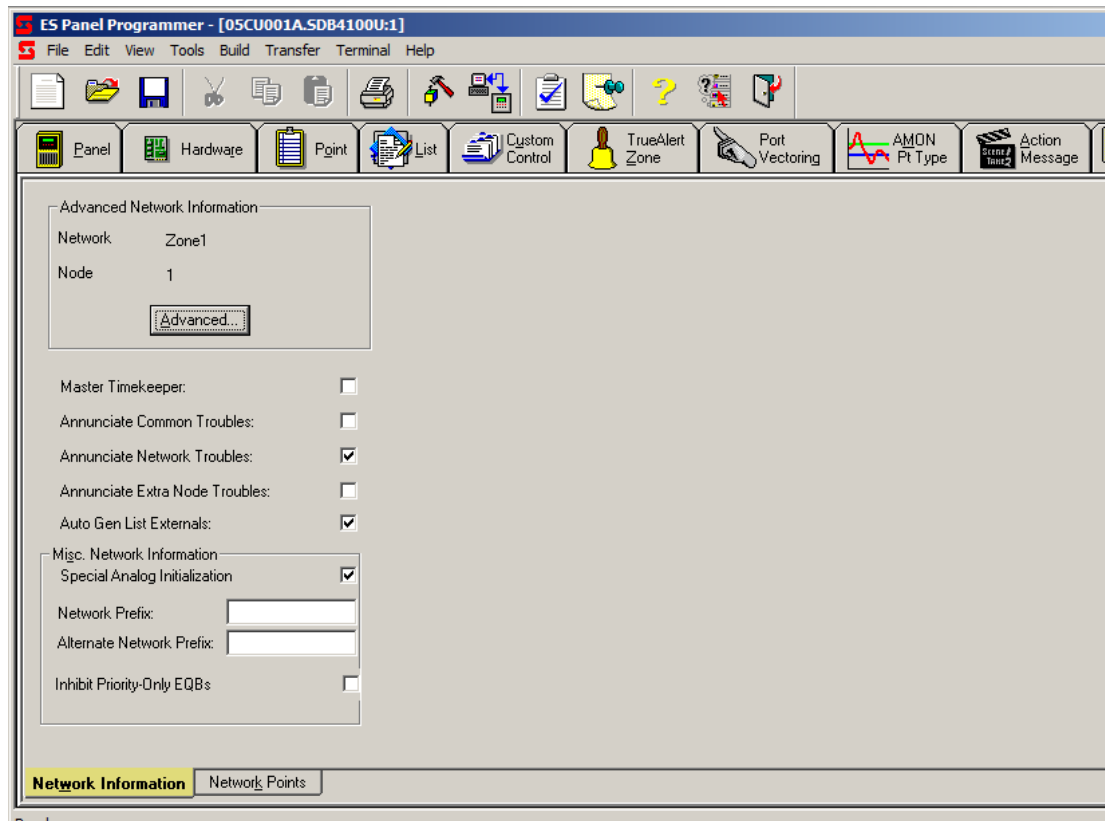

Figure 15-5. Network Tab, Showing Network Information
1. Click on the **Network** tab, shown in the upper right corner of Figure 15-5.